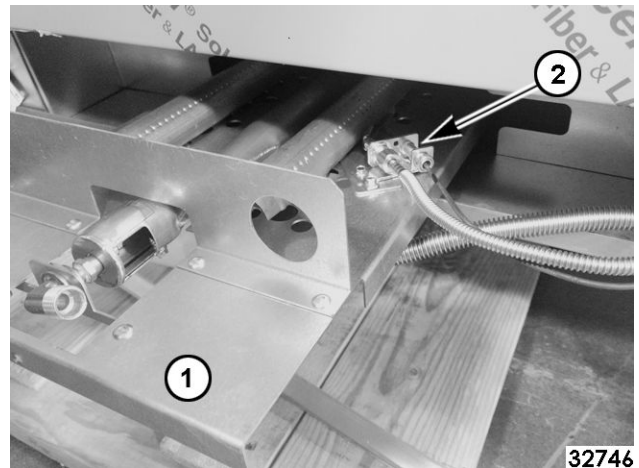

Fig. 51
6. Pull burner drawer box (1, Fig. 51) out from the oven.
7. Remove pilot assembly (2, Fig. 51) from oven deflector.